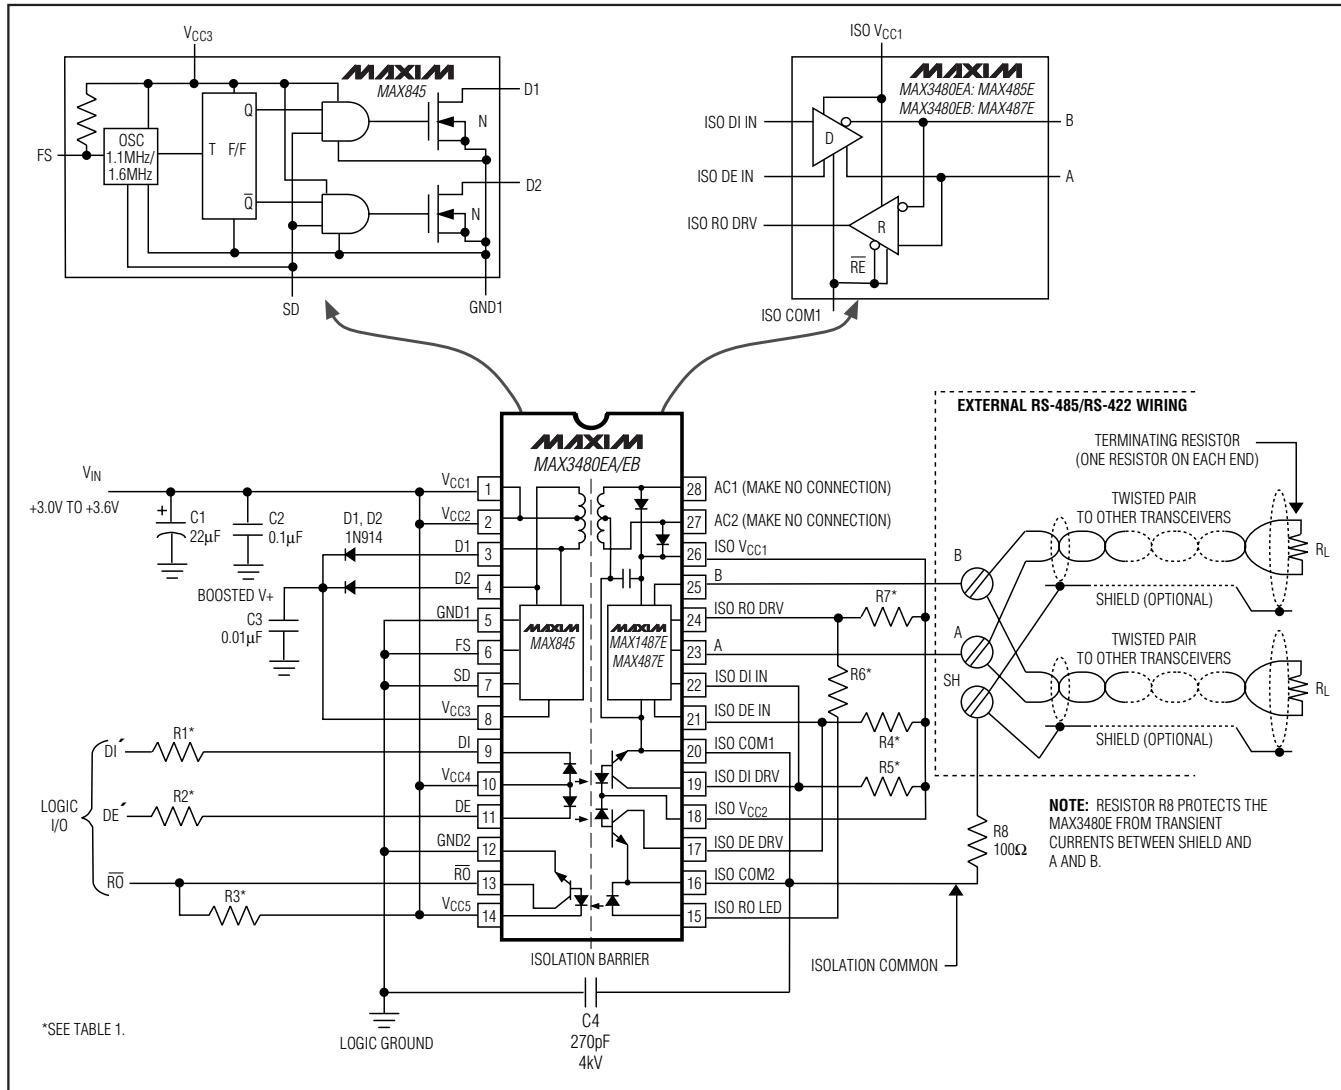

Figure 1. Block Diagram
**Note 2:** For DE' and DI' pin descriptions, see the *Block Diagram* and the *Typical Application Circuit* (Figure 1 for MAX3480EA/MAX3480EB).
( $V_{CC-} = +3.3V$ ,  $T_A = +25^\circ C$ , Figure 1, unless otherwise noted.)
(VCC- = +3.3V, TA = +25°C, Figure 1, unless otherwise noted.)
| 3, 4                                | D1, D2           | Boost-Voltage Generator Outputs. See Figures 1 and 2.  |
| 8                                   | V CC3 | Boosted V+ Voltage Input. Must be connected as shown in Figures 1 and 2.   |
| 17   | ISO DE DRV | Isolated Driver-Enable Drive Input. The driver outputs, A and B, are enabled by bringing DE' high. The driver outputs are high impedance when DE' is low. If the driver outputs are enabled, the device functions as a line driver. While the driver outputs are high impedance, the device functions as a line receiver. Open collector output; must have pullup (R4 in Figure 1) to ISO VCC and be connected to ISO DE IN for normal operation (Table 1). |
| 19   | ISO DI DRV | Isolated Driver-Input Drive. With DE' high, a low on DI' forces output A low and output B high. Similarly, a high on DI' forces output A high and output B low. Open-collector output; must have pullup (R5 in Figure 1) to ISO VCC and be connected to ISO DI IN for normal operation (Table 1).   |
| 24   | ISO RO DRV | Isolated Receiver-Output Drive. Connect to ISO RO LED through R6 (Table 1 and Figure 1).  |
isolation barrier (Figure 1). Power is transferred from the logic side (nonisolated side) to the isolated side of the barrier through a center-tapped transformer. Signals cross the barrier through high-speed optocouplers. A single +3.3V supply on the logic side powers both sides of the interface.
Resistor R8 (Figures 1 and 2) provides additional protection by current limiting between the shield and the two signal wires. In the event that shielded cable is used and an external voltage or transient is inadvertently applied between the shield and the signal wires, the MAX3480EA/MAX3480EB can be damaged. Although unlikely, this condition can occur during installation.